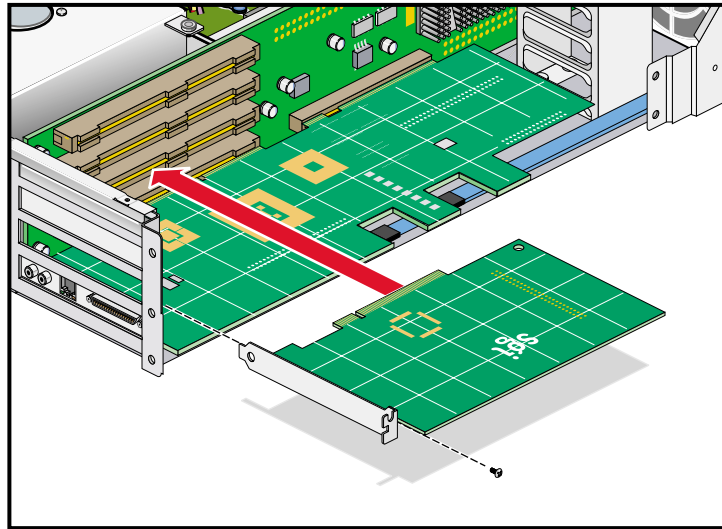

Figure 4-7 Installing the Card and Retaining Screw
11. Insert the card into the slot by pushing the card into the connector until it is properly seated and install the retaining screw, as shown in Figure 4-7. If you have installed the card into one of the upper two slots, proceed to step 13.